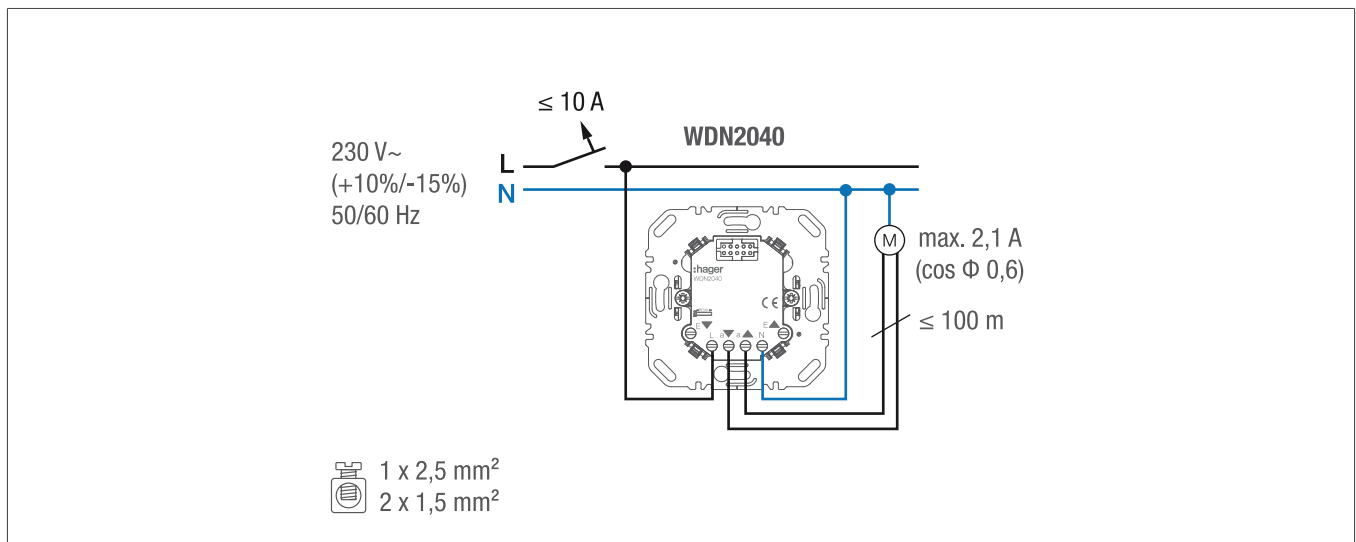

Fig. 2: Individual control
- For individual control, connect the blinds insert in accordance with the connection diagram (Fig. 2).